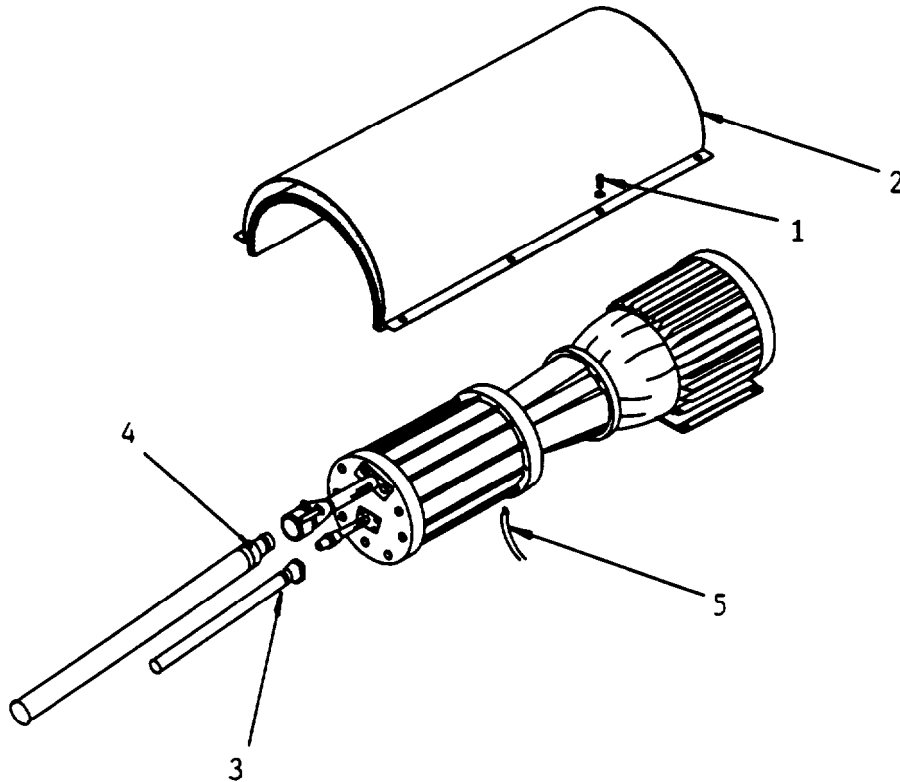

Figure 2-76a. Draining of R.O. Pump
- (1) Remove eight screws retaining edge of pump cover closest to operator (1, figure 2-76a).
- (2) Remove pump cover (2, figure 2-76a).
- (3) Remove the high pressure hose (3) from the end of the pump by turning fitting counterclockwise while holding collar (figure 2-76a).
- (4) Remove the low pressure hose (4) by separating the quick disconnect fitting (figure 2-76a)
- (5) Disconnect drain line (5) from fitting (figure 2-76a).